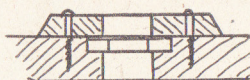

Fig. 2—Section detail
of the nut, as in detail Fig. 2. Now to make the platen (C).